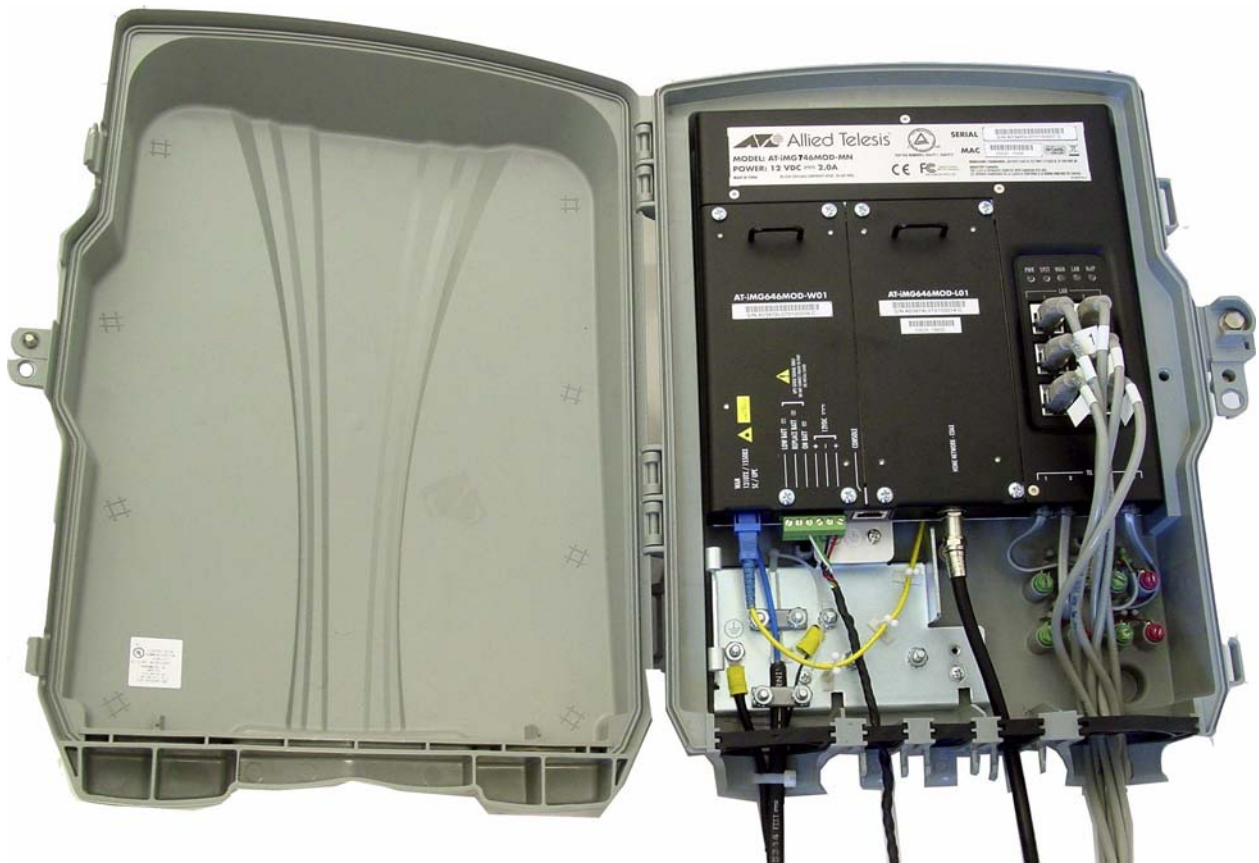

Figure 16. Configuration Complete
3. The physical installation is now complete, as shown in Figure 16.